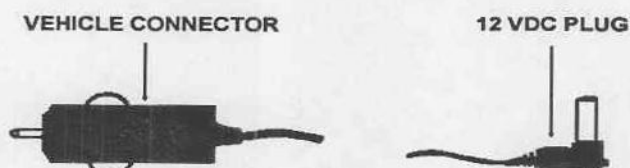

Figure 1-9. Vehicle power cord.
(7) *Vehicle power cord (fig 1-9).* This cord uses a vehicle for its source of 12 VDC electrical power to operate the suction apparatus during patient movement.